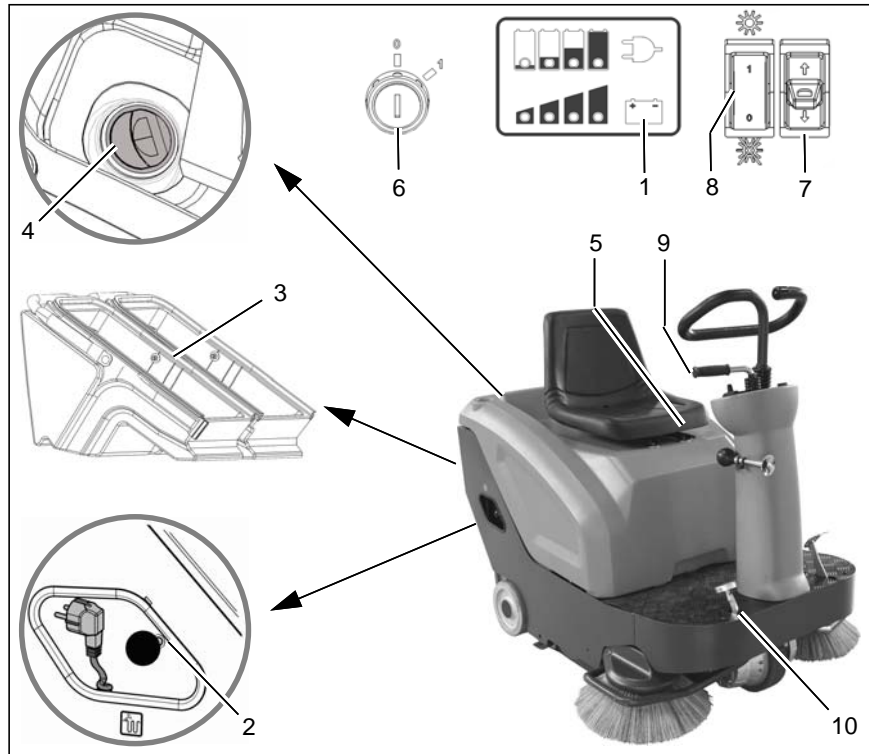

Fig. 12
- Check the charge status indicator (Fig. 12/1) of the batteries
- Clean the filters using the shaking device (Fig. 12/2)
- Empty the dirt hoppers (Fig. 12/3)
- Open the bypass flap (Fig. 12/4) in the case of wet refuse.
- Check the adjustment of the driver's seat (Fig. 12/5)
1. Switch the vehicle on with the key switch (Fig. 12/6).
2. Select the driving direction with the drive direction switch (Fig. 12/7). Release parking brake.
3. Switch on the sweeping functions with the switch (Fig. 12/8).
4. Lower the side broom using the lever (Fig. 12/9).
5. Actuate the accelerator (Fig. 12/10) and drive over the area to be